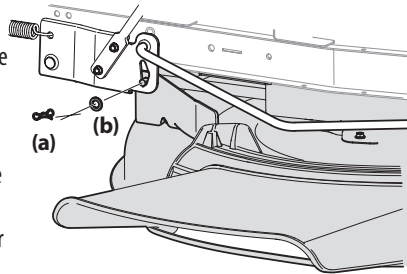

Figure 16
3. Remove the bow-tie cotter pin (a) and flat washer (b) from the deck lift assembly, and retain for reinstallation later. See Figure 16.